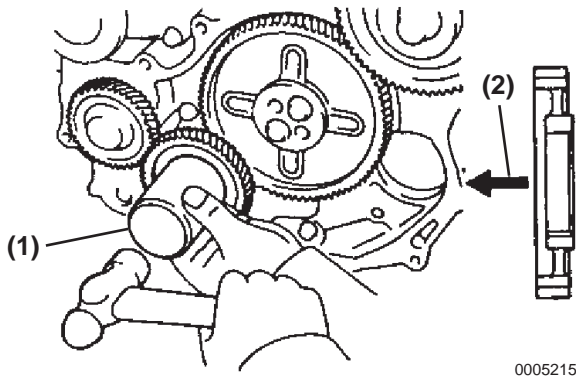

Figure 5-215
12. Tap in the oil pump drive shaft gear, with the front **(Figure 5-215, (2))** facing out to install using a suitable tool **(Figure 5-215, (1))**.